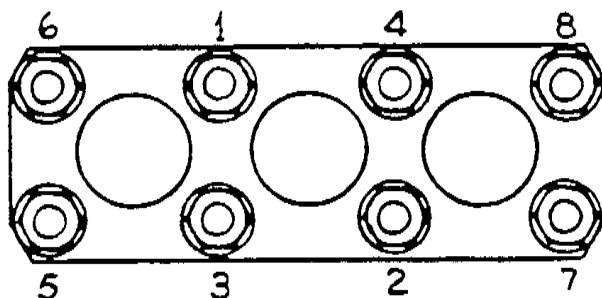

FIGURE 3
1. With the valve removal tool (T7) install the suction valves (7) and discharge valves (9).
2. Lubricate the cylinder liner O-ring gaskets (28) with a food-grade lubricant and install on the cylinder liners (27).
3. Carefully place the cylinder liners (27) with cylinder liner O-rings (28) in the rear of the cylinder bores.
4. Install the back plate (25) and back plate nuts (26). Refer to Figure 3 for proper nut-tightening sequence.